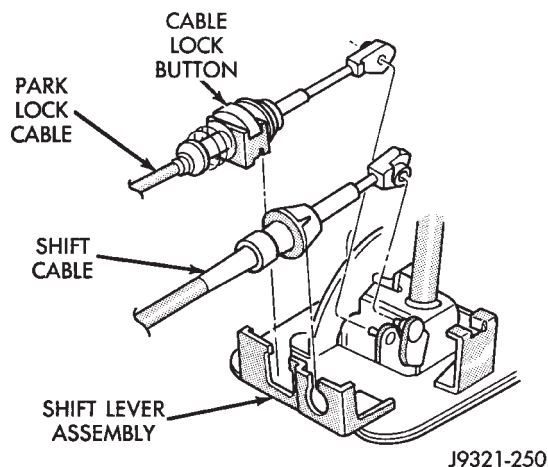

Fig. 176 Park Lock Cable Attachment
- (1) Shift transmission into PARK.
- (2) Remove shift lever bezel and console screws. Raise bezel and console for access to cable.
- (3) Pull cable lock button up to release cable (Fig. 176).
- (4) Turn ignition switch to LOCK position.